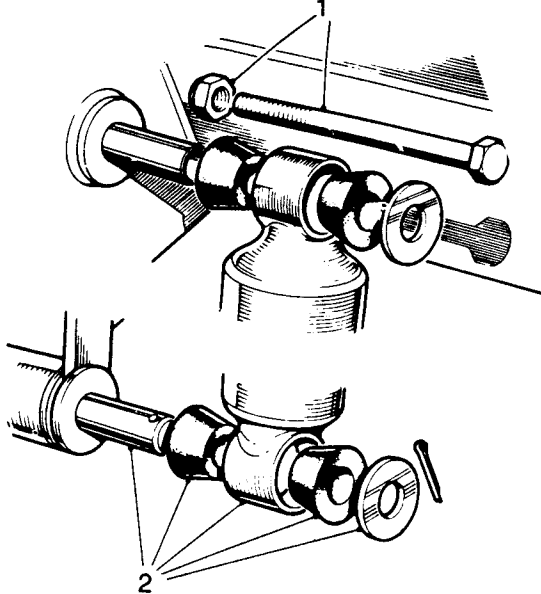

Fig I4.6
- (4) Refer to Fig I4.6. Remove the shock absorber top fixings (1).
- (5) Remove the lower fixings (2).
- (6) Remove the shock absorber.